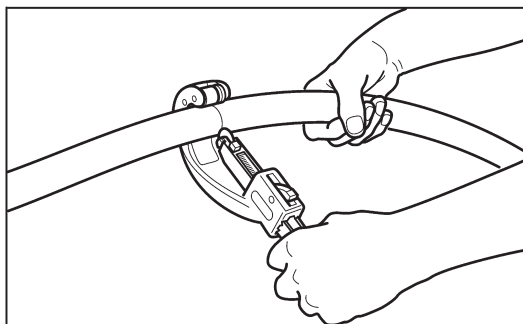

Figure 4-52
1. Unreel pipe into a trench or on the ground and cut to the desired length plus one foot. Cutting up to 1-inch size can be done with a large tubing cutter. For 1-1/4 inch to 2-inch sizes, a reciprocating saw is recommended (Figure 4-52).